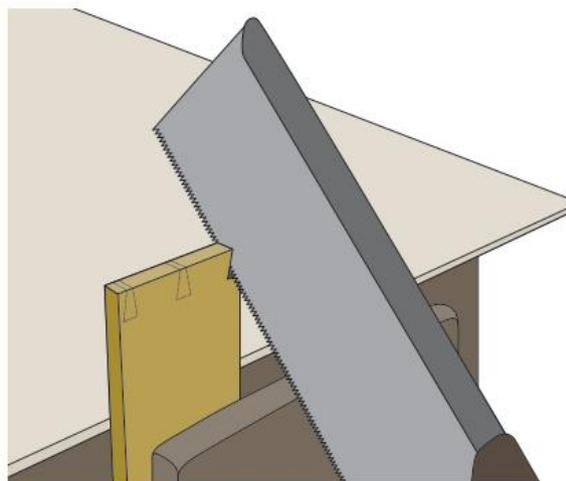
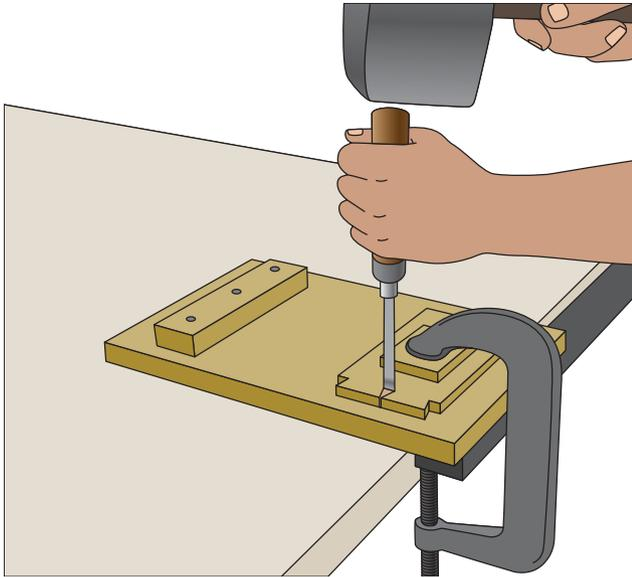

Figure 7.14 Sawing pin sockets – note how waste is marked
Figure 7.15 Chiselling waste from sockets; block under clamp shoe protects work and bench hook protects the bench
- 5 Saw down the sides of the sockets to the gauged depth (Figure 7.14) then remove waste with a bevel-edged chisel, working from each side (Figure 7.15). A coping saw may be used to remove the majority of waste prior to chiselling.